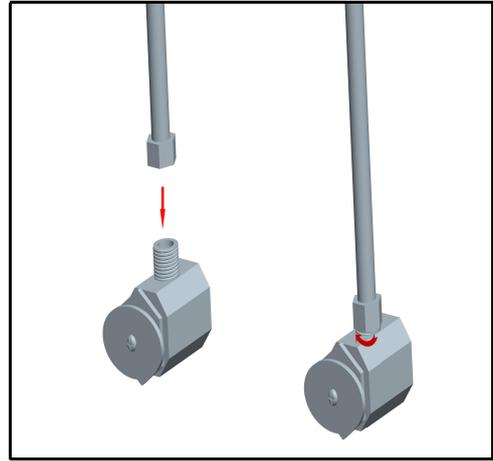

Figure 6
8. Screw the female ends of the connecting hoses to the corresponding hot and cold water supply valves by using an adjustable wrench or plier **(Figure 6)**.